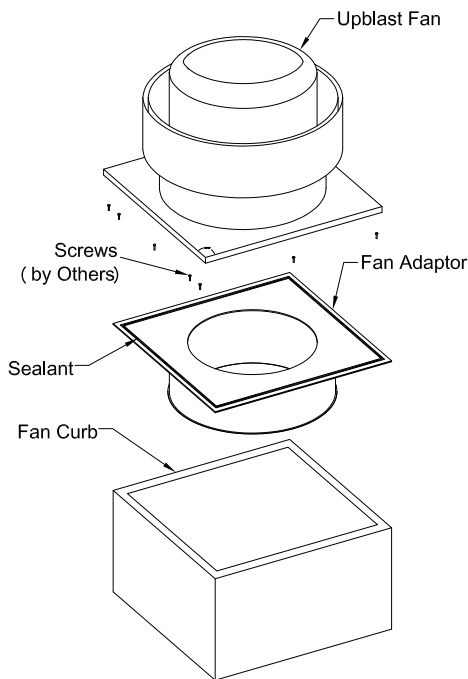

Figure 117: Fan Adapter
2. When connected to an up blast fan, the plate mounts on top of the fan curb which supports the fan housing. See Figure 117.
5. Secure the plate to the curb a minimum of three (3) places per side with minimum #8 x 1-1/4" wood screws. You will have to drill holes in the plate.